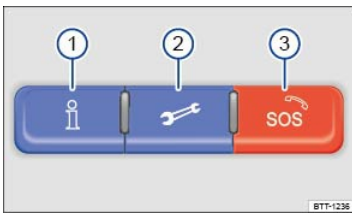

Fig. 146 In the roof console: 3-button module to connect to VW Car-Net Security & Service operators (if equipped).
You can access VW Car-Net Security & Service via your VW Car-Net iPhone® or Android® app (text and data rates apply) and the VW Car-Net Security & Service website (<http://www.vw.com/carnet>). If you have a question or would like to subscribe, please either press the ⇒ Fig. 146 button in your vehicle or contact the VW Car-Net Security & Service Response Center at 1-877-820-2290. For more information or to log on to your VW Car-Net Security & Service account, visit <http://www.vw.com/carnet>.
The Manual Emergency Call service and all other VW Car-Net[®] Security & Service features require a trial or paid subscription. To begin your trial or paid subscription, authentication and activation are required. For more information, please visit the website (<http://www.vw.com/carnet>), press the ⇒ Fig. 146① button in the 3-button module in your vehicle, or contact the VW Car-Net Security & Service Response Center at 1-877-820-2290.
Key to ⇒ Fig. 146 :